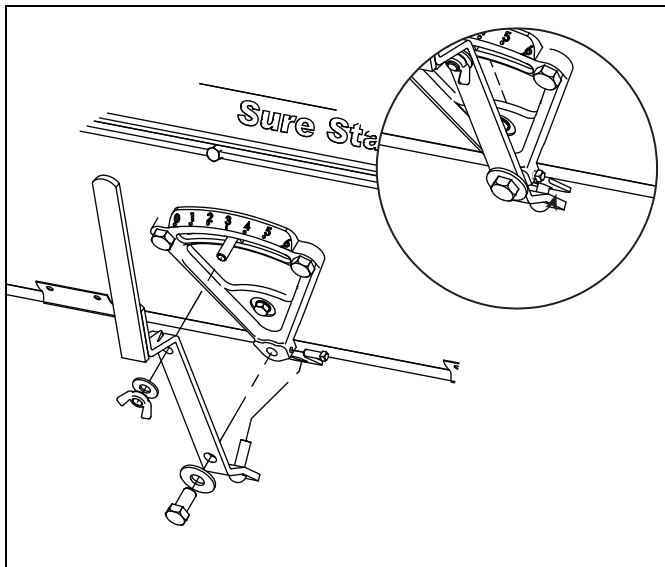

Figure 2-35: Shift Handle
6. Position the shift handles on rear of boxes so the pin in the bottom of each handle engages the slotted hole in the slide. Attach handles to shift plates using 1/2" x 1" pivot bolt and flat washer. Tighten bolt just so the handle can move easily and then lock the bolt by installing set screw into tapped hole in cast iron shift plate. See Figure 2-35.